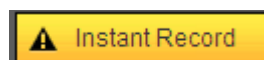

Figure 5-7
- Section 5: Instant record button. Click it, the button becomes yellow and system begins manual record. See Figure 5-7. Click it again, system restores previous record mode.